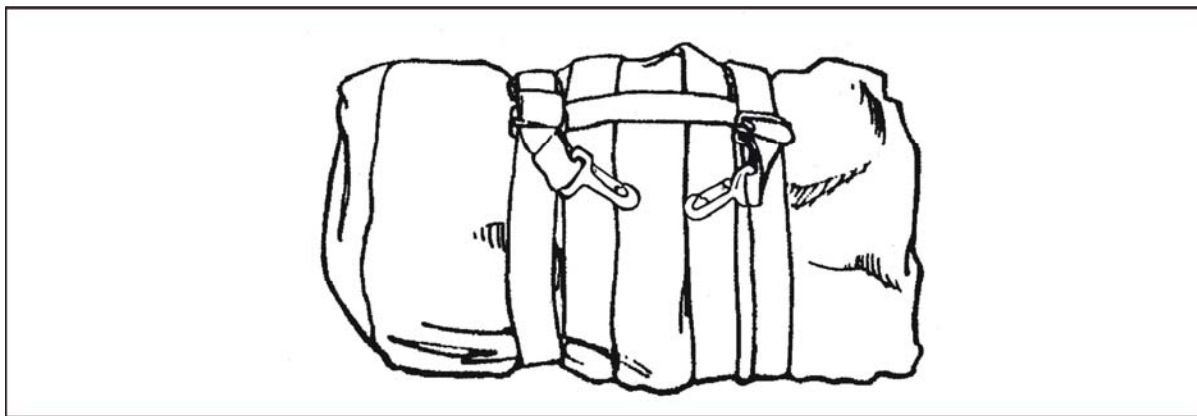

Figure 5-4. H-Harness Attached to the Kit Bag
- Threads the snap hooks on the attaching straps through the handles of the kit bag. He rolls and tapes any excess straps (Figure 5-4).